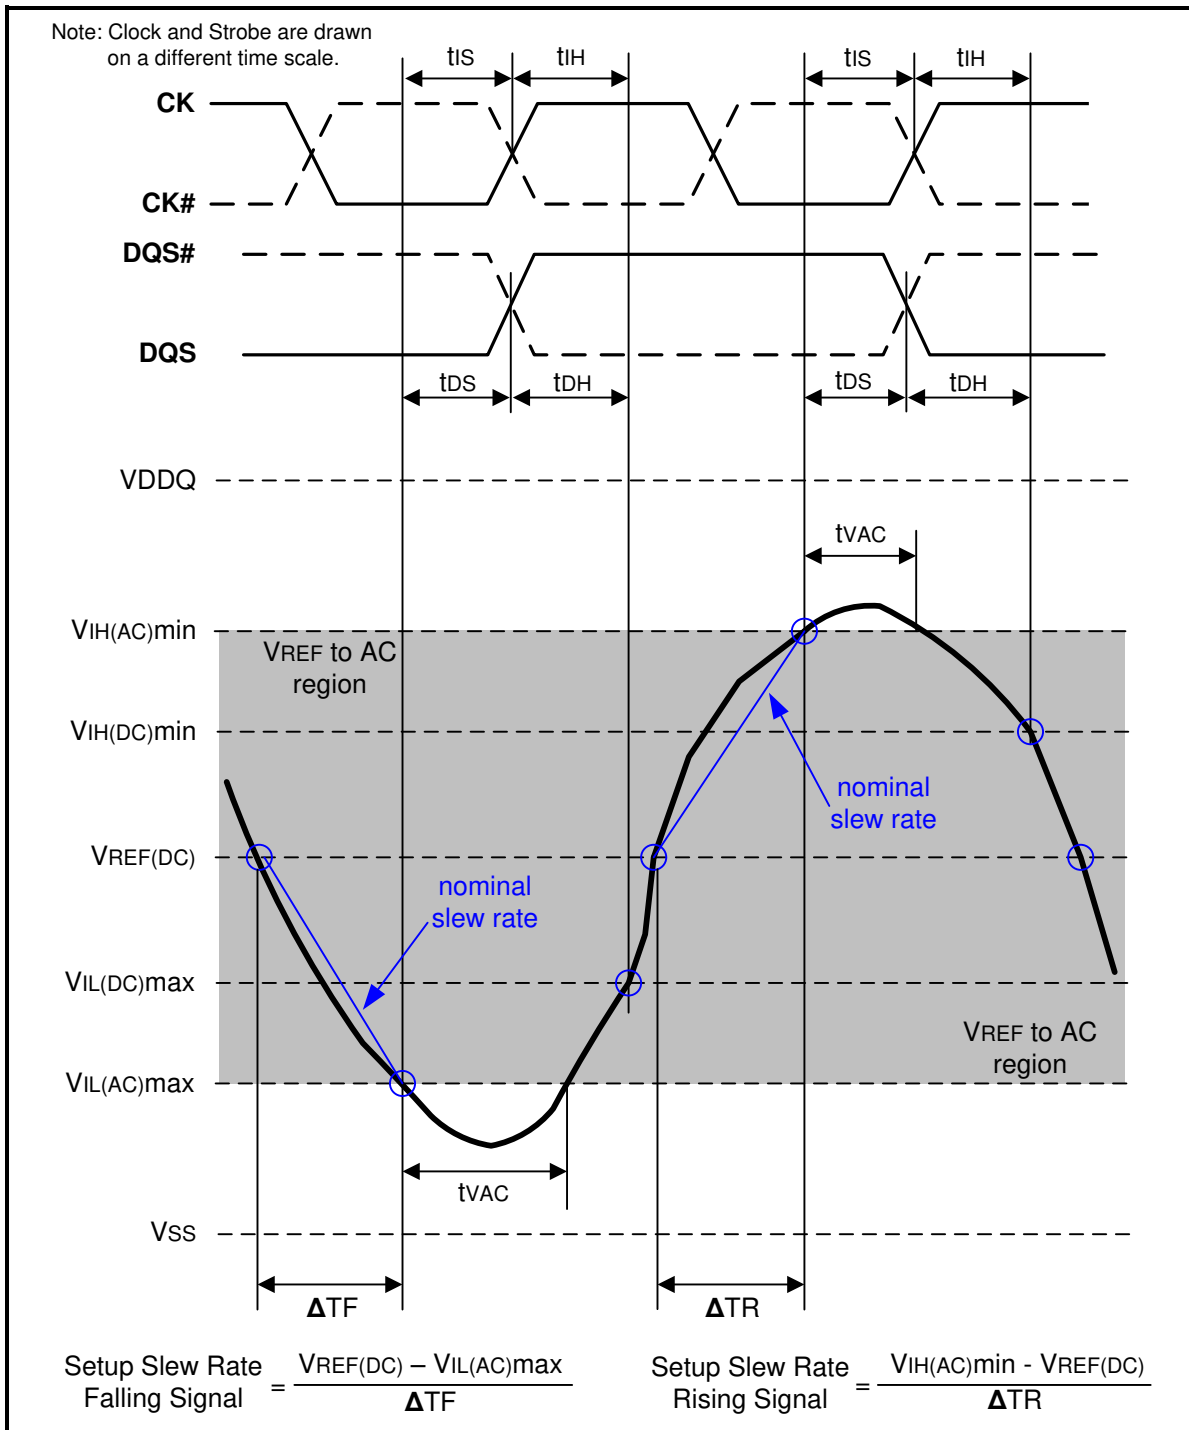
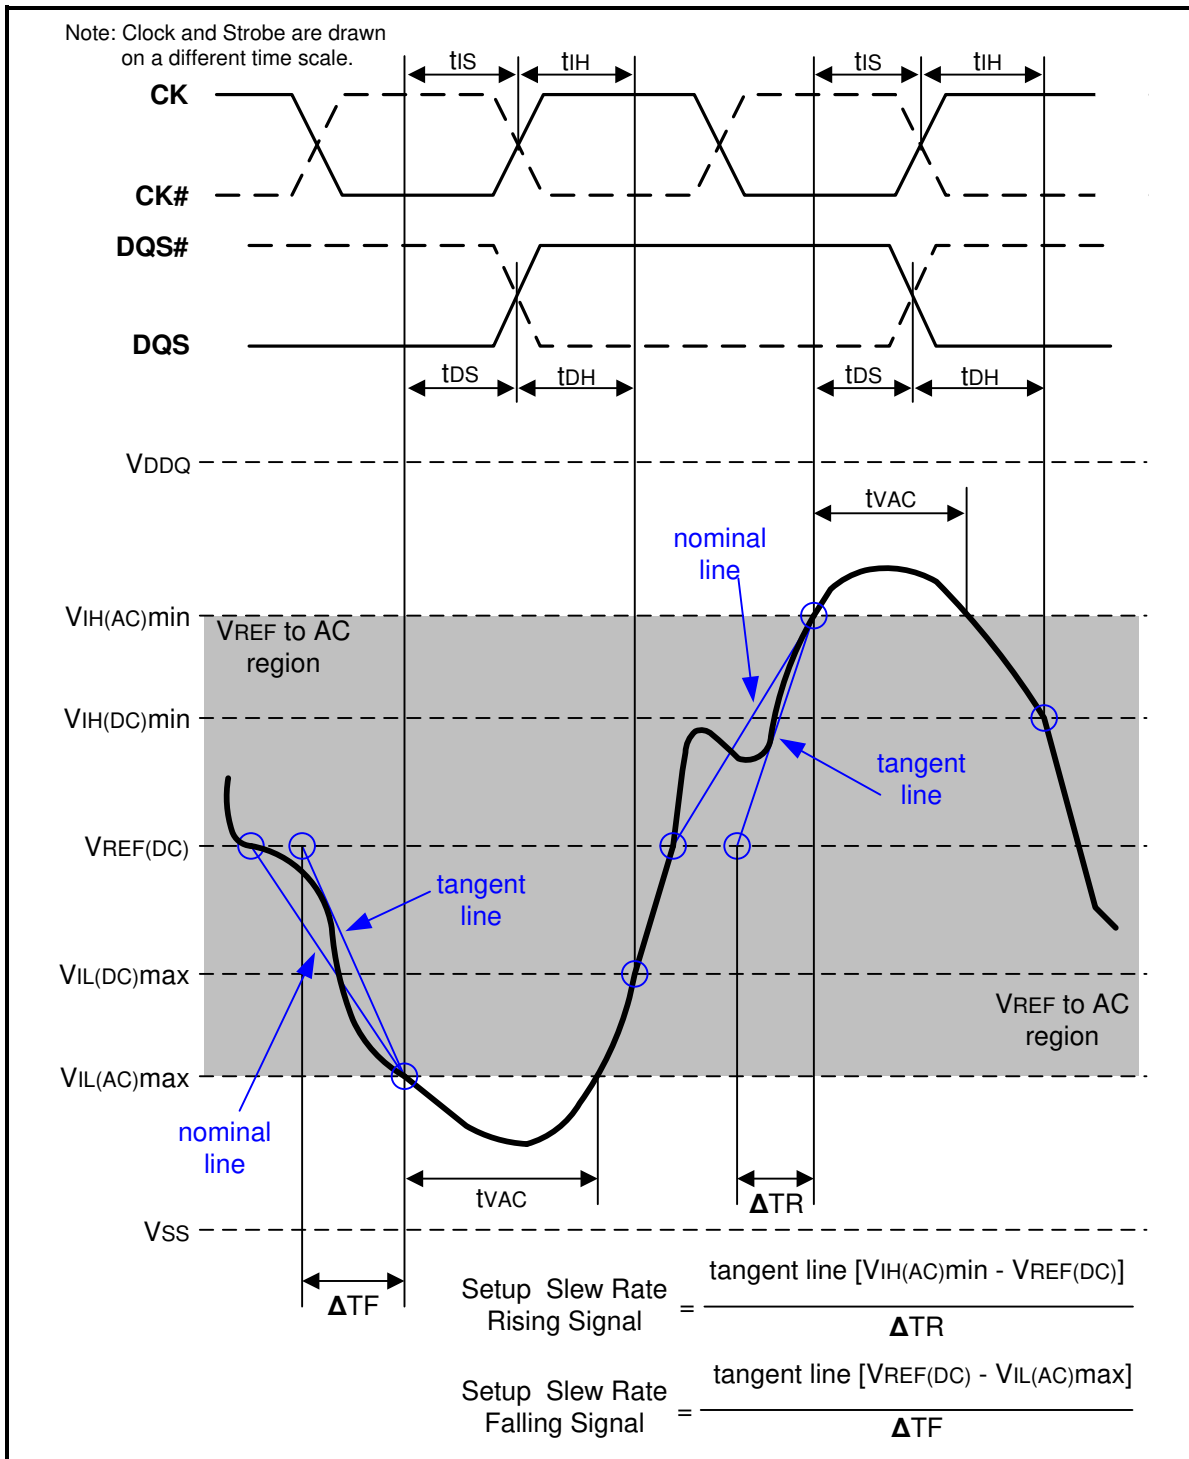

Figure 107 – Illustration of nominal slew rate and tvAC for setup time tDS (for DQ with respect to strobe) and tIS (for ADD/CMD with respect to clock)
Figure 109 – Illustration of tangent line for setup time tds (for DQ with respect to strobe) and tis (for ADD/CMD with respect to clock)
Setup (t_{IS}) nominal slew rate for a rising signal is defined as the slew rate between the last crossing of $V_{REF}(\text{DC})$ and the first crossing of $V_{IH}(\text{AC})_{\text{min}}$. Setup (t_{IS}) nominal slew rate for a falling signal is defined as the slew rate between the last crossing of $V_{REF}(\text{DC})$ and the first crossing of $V_{IL}(\text{AC})_{\text{max}}$. If the actual signal is always earlier than the nominal slew rate line between shaded 'VREF(DC) to AC region', use nominal slew rate for derating value (see Figure 107). If the actual signal is later than the nominal slew rate line anywhere between shaded 'VREF(DC) to AC region', the slew rate of a tangent line to the actual signal from the AC level to DC level is used for derating value (see Figure 109).
Setup (tDS) nominal slew rate for a rising signal is defined as the slew rate between the last crossing of VREF(DC) and the first crossing of VIH(AC)min. Setup (tDS) nominal slew rate for a falling signal is defined as the slew rate between the last crossing of VREF(DC) and the first crossing of VIL(AC)max (see Figure 107). If the actual signal is always earlier than the nominal slew rate line between shaded 'VREF(DC) to AC region', use nominal slew rate for derating value. If the actual signal is later than the nominal slew rate line anywhere between shaded 'VREF(DC) to AC region', the slew rate of a tangent line to the actual signal from the AC level to DC level is used for derating value (see Figure 109).